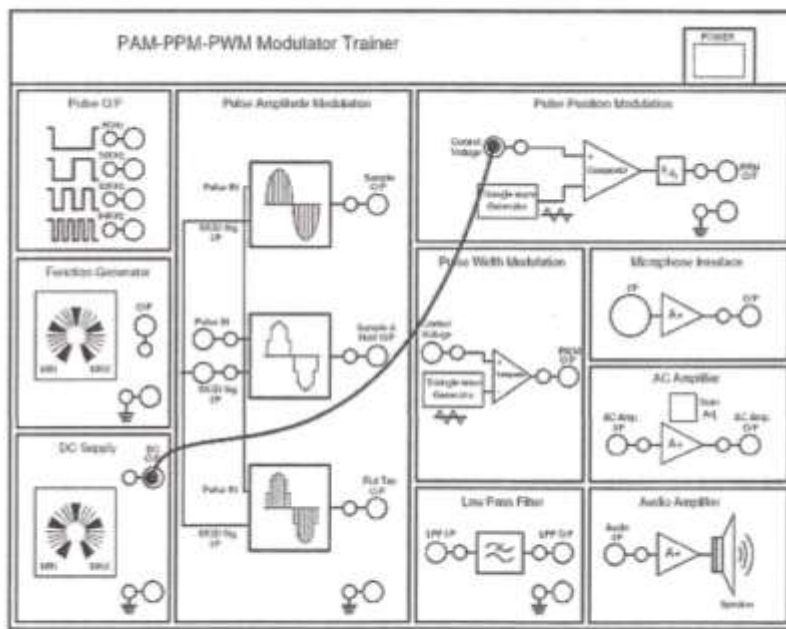

Fig. 19
1. Connect the circuit as shown in Fig 19.